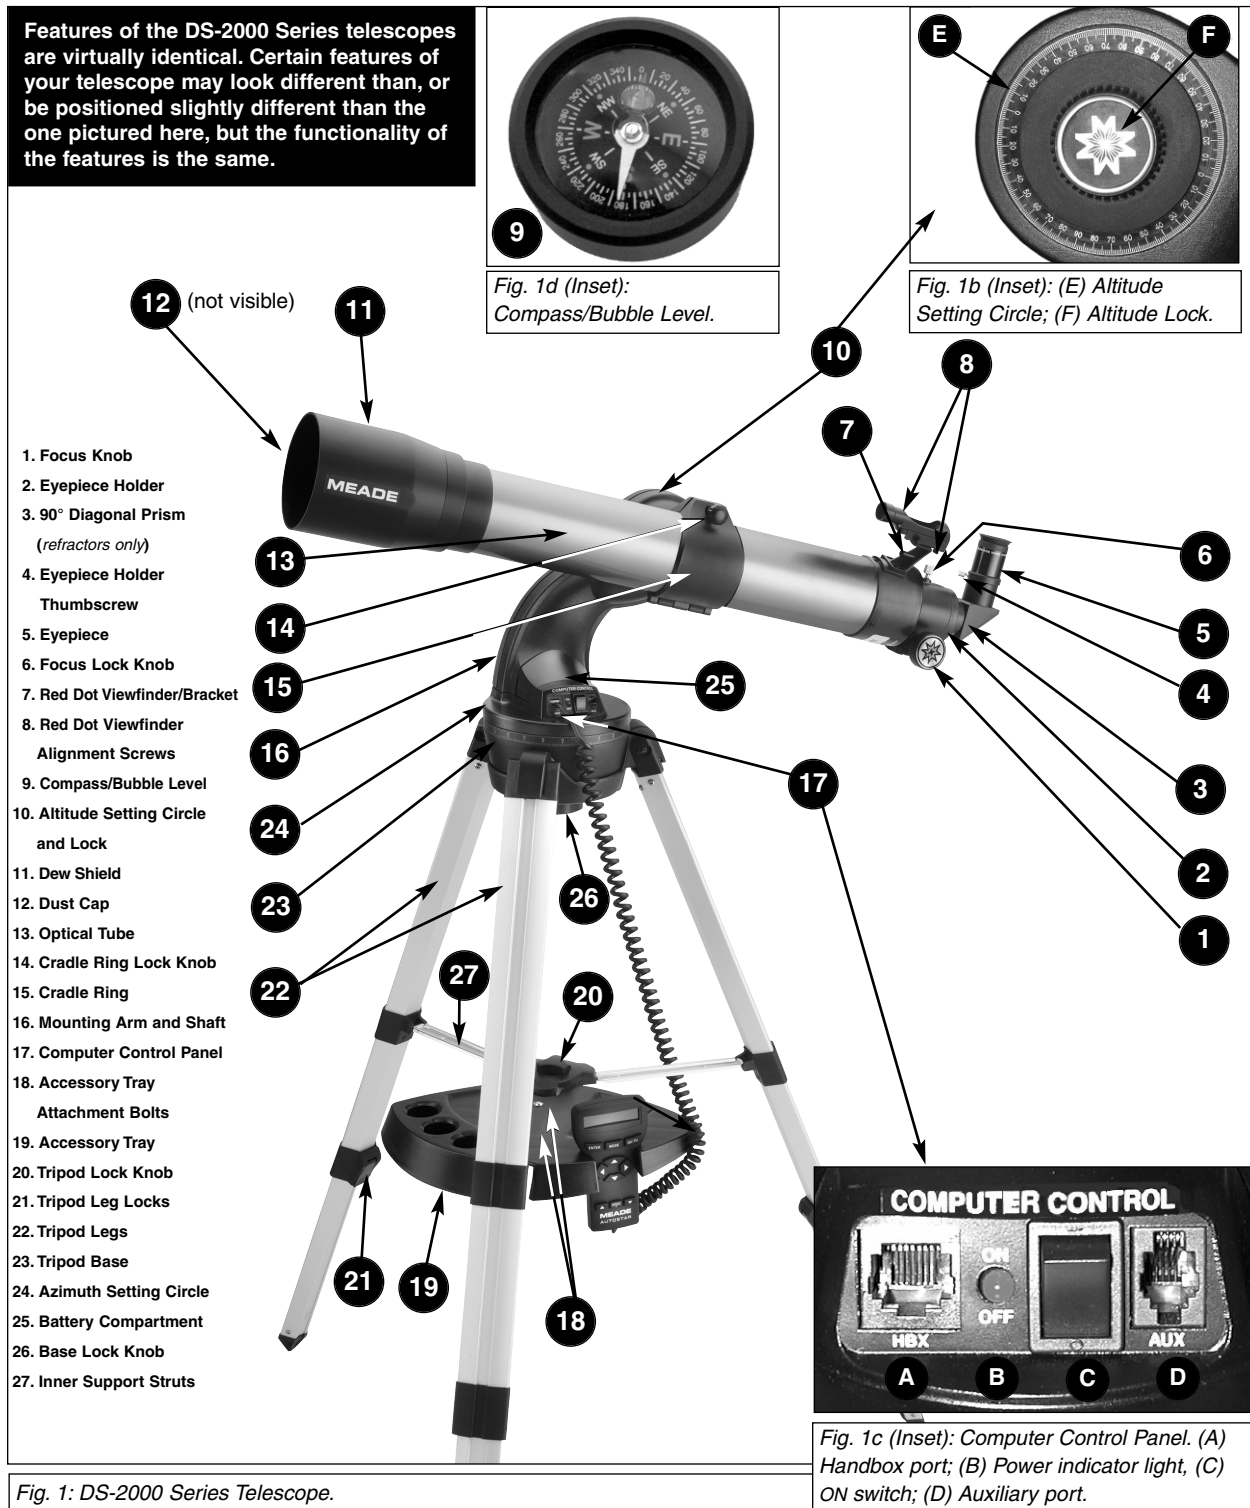

Fig. 1: DS-2000 Series Telescope.
- ➎ **Eyepiece:** Place the supplied eyepiece into the eyepiece holder (*reflector models only*) or the 90° Diagonal Prism (*refractor models only*, **3, Fig. 1**) and tighten in place with thumb-screw (**4, Fig.1**).
- ➓ **Cradle Ring:** Holds optical tube in place. Attaches to the mounting arm shaft (**16, Fig. 1**)
- ➓ **Mounting Arm and Shaft:** Holds the optical tube assembly. Attaches to the tripod base (**23, Fig. 1**).
- 21 Tripod Legs Locks (3)** - Lift the lock up to loosen inner section of a tripod leg and extend the inner leg to desired height. Press the lock down to lock the leg in place.
- 23 Tripod Base** - Holds the mounting arm assembly (**16, Fig. 1**) in place.
- 27 Inner Support Struts (3)** - Make the tripod more secure and stable.